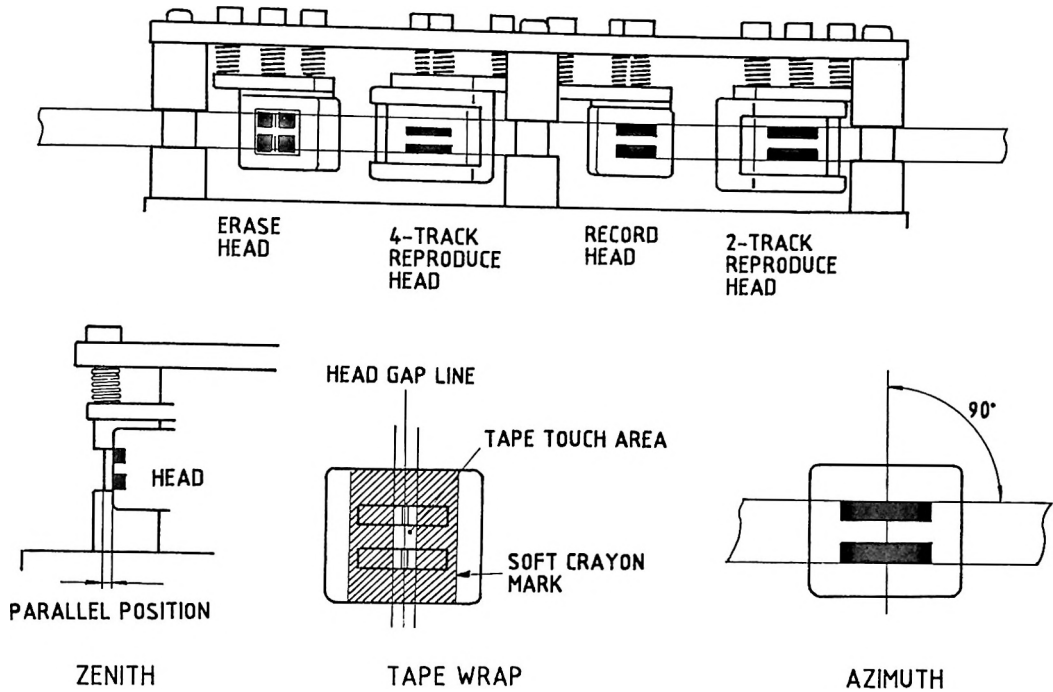

Fig. 5-7
- (2) When replacing a whole head stack, take out three screws marked M in the figure.
- (3) When replacing only a head unit, take out three screws marked T_n, A_n and H_n of the head.
- (4) When new head unit or new head stack is mounted, first roughly adjust the height of the head with the tape thread as illustrated in Fig. 5-7. To adjust the height turn three screws by same amount.
- (5) Then paint the head face with a soft crayon or marking pen, run the tape for about ten seconds, and check the trace of the tape. If head adjustment is correct, the shape of tape touch area on the head should be rectangular and should be equal shape to the head gap line as illustrated Fig. 5-7.
- (6) To have those results, adjust and check the zenith, tape wrap and azimuth of the head with five screws as explained on the Table 5-2.